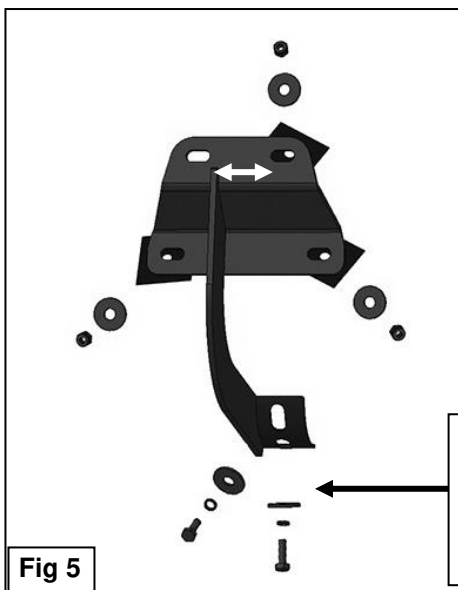

Fig 5
4. Repeat **Steps 1—3** to install the (2) remaining center and rear passenger side Brackets.
5. Select the passenger/right Sidebar. Carefully position the Sidebar onto the (3) Mounting Brackets. **IMPORTANT: Do not slide, (front to back or rotate), the Sidebar on the Brackets or damage to the finish on the Sidebar may result. Attach the Sidebar to the Mounting Brackets with (6) 8mm x 25mm Hex Bolts, (6) 8mm Lock Washers and (6) 8mm Flat Washers, (Figure 5). Do not tighten hardware.**